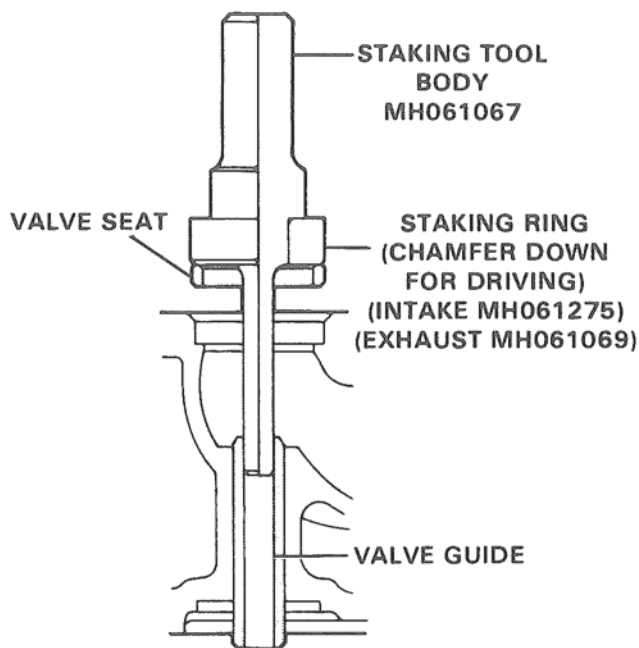

Figure 27. Drive in Valve Seat.
- E. Insert cooled seat in heated cylinder head cavity, drive in using Special Tool. Figure 27.